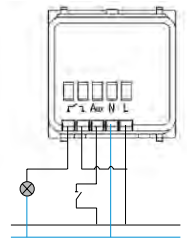

Figure 3: Basic wiring diagram
The electrical wiring of these devices is performed according to the wiring diagram shown in Figure 3. The terminal marked "L" shows the phase wire of the installation. The terminal marked "N" shows the neutral wire of the installation. The terminals marked represent the two terminals of the relay output (voltage free).
1. Connect the device based on the wiring scheme. Figures 3, 4 and 5.